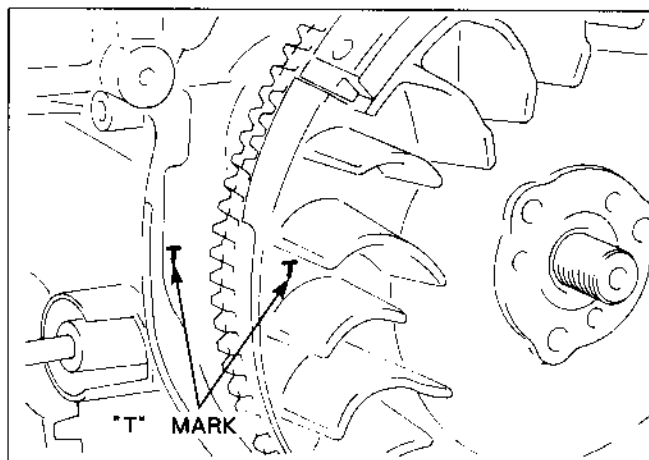

Fig. 53
- (1) Position piston at top dead center of compression stroke by matching the mark "T" of flywheel with the mark "T" of crankcase. (See Fig. 53.)